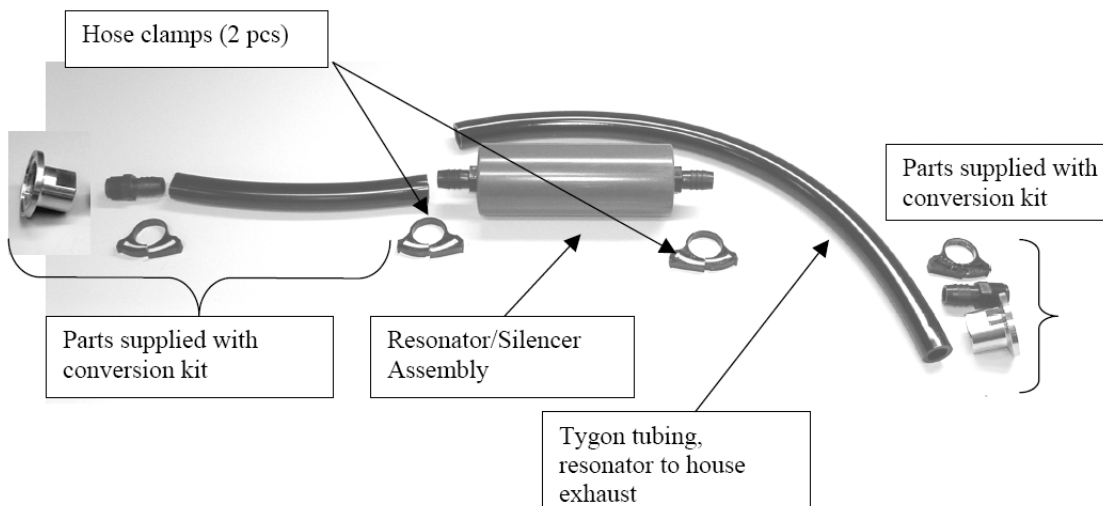

Figure 1-4 Exhaust Silencer Kit: Exploded View - For Systems Converted to Triscroll Pumps
2. Insert the resonator into the exhaust line (Figure 1-4) and attach the included additional 1/2" Tygon tubing to the other end of the resonator. The resonator may be installed in either direction.
4. Reinstall the 1/2" hose barb x 3/8" NPT fitting and the 3/8" NPT x NW25 flange (Figure 1-4).